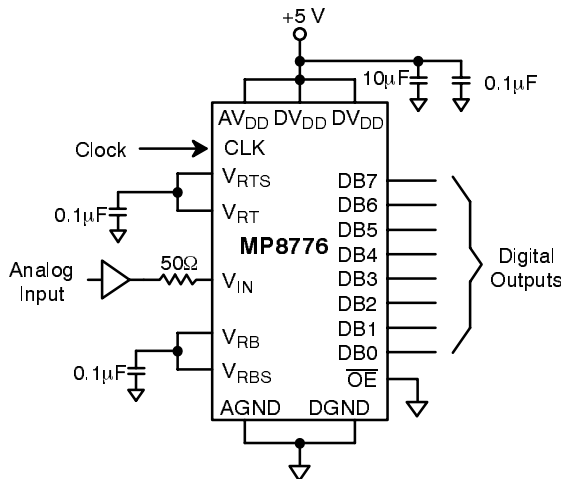

Figure 6. Typical Circuit Connections
AV_{DD} and DV_{DD} should be connected to the sample power supply source (Figure 6.). The power supply (AV_{DD} and DV_{DD}) and reference voltage (V_{RT} & V_{RB}) pins should be decoupled with $0.1\mu\text{F}$ and $10\mu\text{F}$ capacitors to GND, placed as close to the chip as possible.
2. It is important to note that op amps have inductive output impedances at high frequencies which is a consequence of the emitter impedance of the typical push-pull output stage. The resulting transient ringing should be damped by inserting a resistor in series with the ADC input – typically about 50Ω . See Figure 6. The exact value may be obtained from the op amp manufacturer's data sheet.